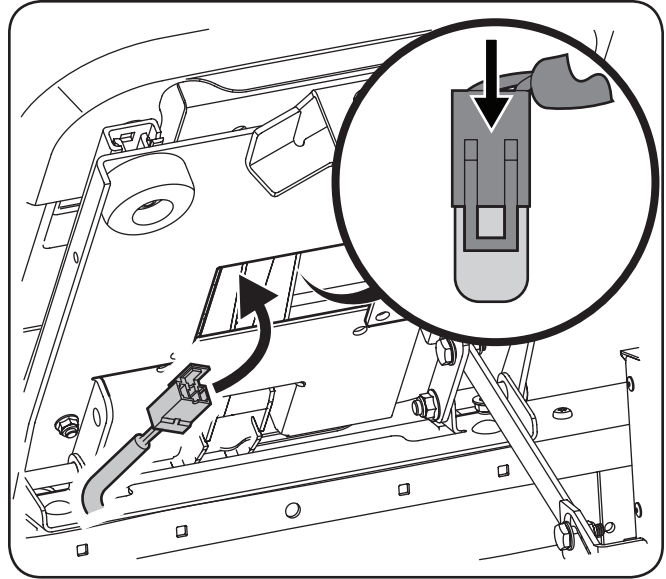

Figure 3-11
4. Insert the wiring harness into the bottom of the seat as shown in Figure 3-11.